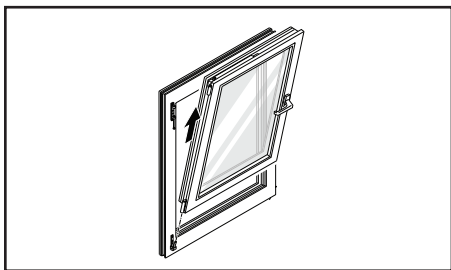

Figure 2-8. How to remove the sash from the frame
- 2.4. Slightly tilt the sash towards you. Lift the sash up off the lower hinge pin. See fig. 2-8.